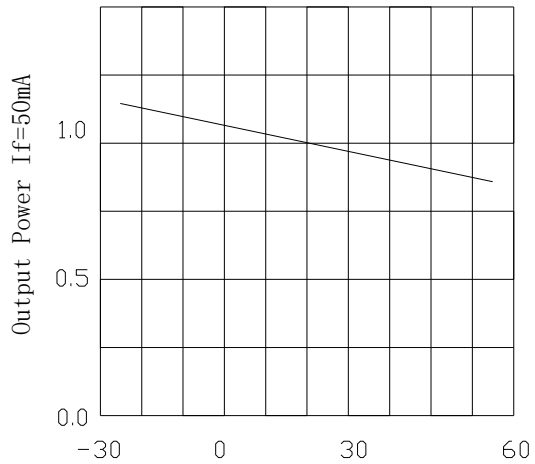

Fig. 4 Relative Luminous Intensity VS. Ambient Temperature (°C)
- 4) When mounting the LED by using a case, as shown Fig.4, ensure that the mounting holds on the PC board match the pitch of the leads correctly-tolerance of dimensions of the respective components including the LED should be taken into account especially when designing the case, PC board, etc. to prevent pitch misalignment between the leads and board holes, the diameter of the board holes should be slightly larger than the size of the lead. Alternatively, the shape of the holes should be made oval. (See Fig.4)